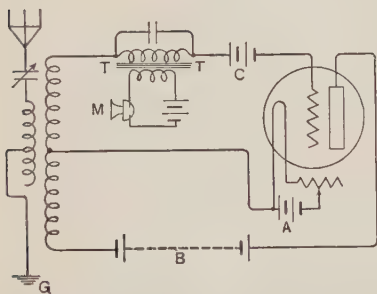

FIGURE 715. — TELEPHONE SENDING CIRCUIT.
**490. Wireless Telephony.**—The transmission of speech by radio is made possible by an adaptation of the continuous wave system of transmission. A telephone transmitter is connected through a battery to the primary of a transformer  $T$ ,  $T$  (Figure 715). The “microphone” employed as a transmitter may be a sensitive carbon grain type (Figure 716), or a two-plate condenser with a very small air gap. The secondary of the telephone transformer is included in the grid circuit of the tube. The action of the sound waves on the transmitter causes a variation in the current in the primary of the telephone transformer. This induces an alternating voltage in the grid circuit having the same frequency as the speech that caused it. The result is that the wave train sent out by the tube is “modulated,” so that the waves are thrown into